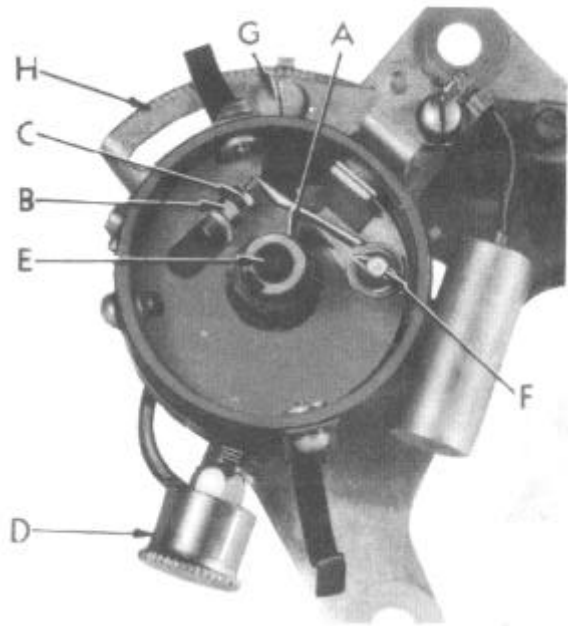

Figure 25--6 Cylinder Distributor
Every 2,000 miles a few drops of light engine oil should be applied to shaft wick (E), Figure 25. Also apply one drop of light engine oil to the breaker arm pivot (F). Apply a light coating of high temperature grease to the cam lobe (A). Turn grease cup (D) one turn.
Remove distributor cap. Turn engine over until breaker arm fibre block (A), Figure 25, is on the highest point of the cam. Points should be clean and smooth and make full contact. Loosen lock nut (B) and turn adjusting screw (C) until .020" gap is obtained. After tightening lock nut, recheck gap.
1. Loosen the distributor advance diaphragm arm screw (G), Figure 25, at the extreme rear end and turn the distributor housing counter clockwise to the limit of the slot in the quadrant.
5. Tighten the distributor advance arm screw (G), replace cable in distributor cap and replace the cap on the distributor.